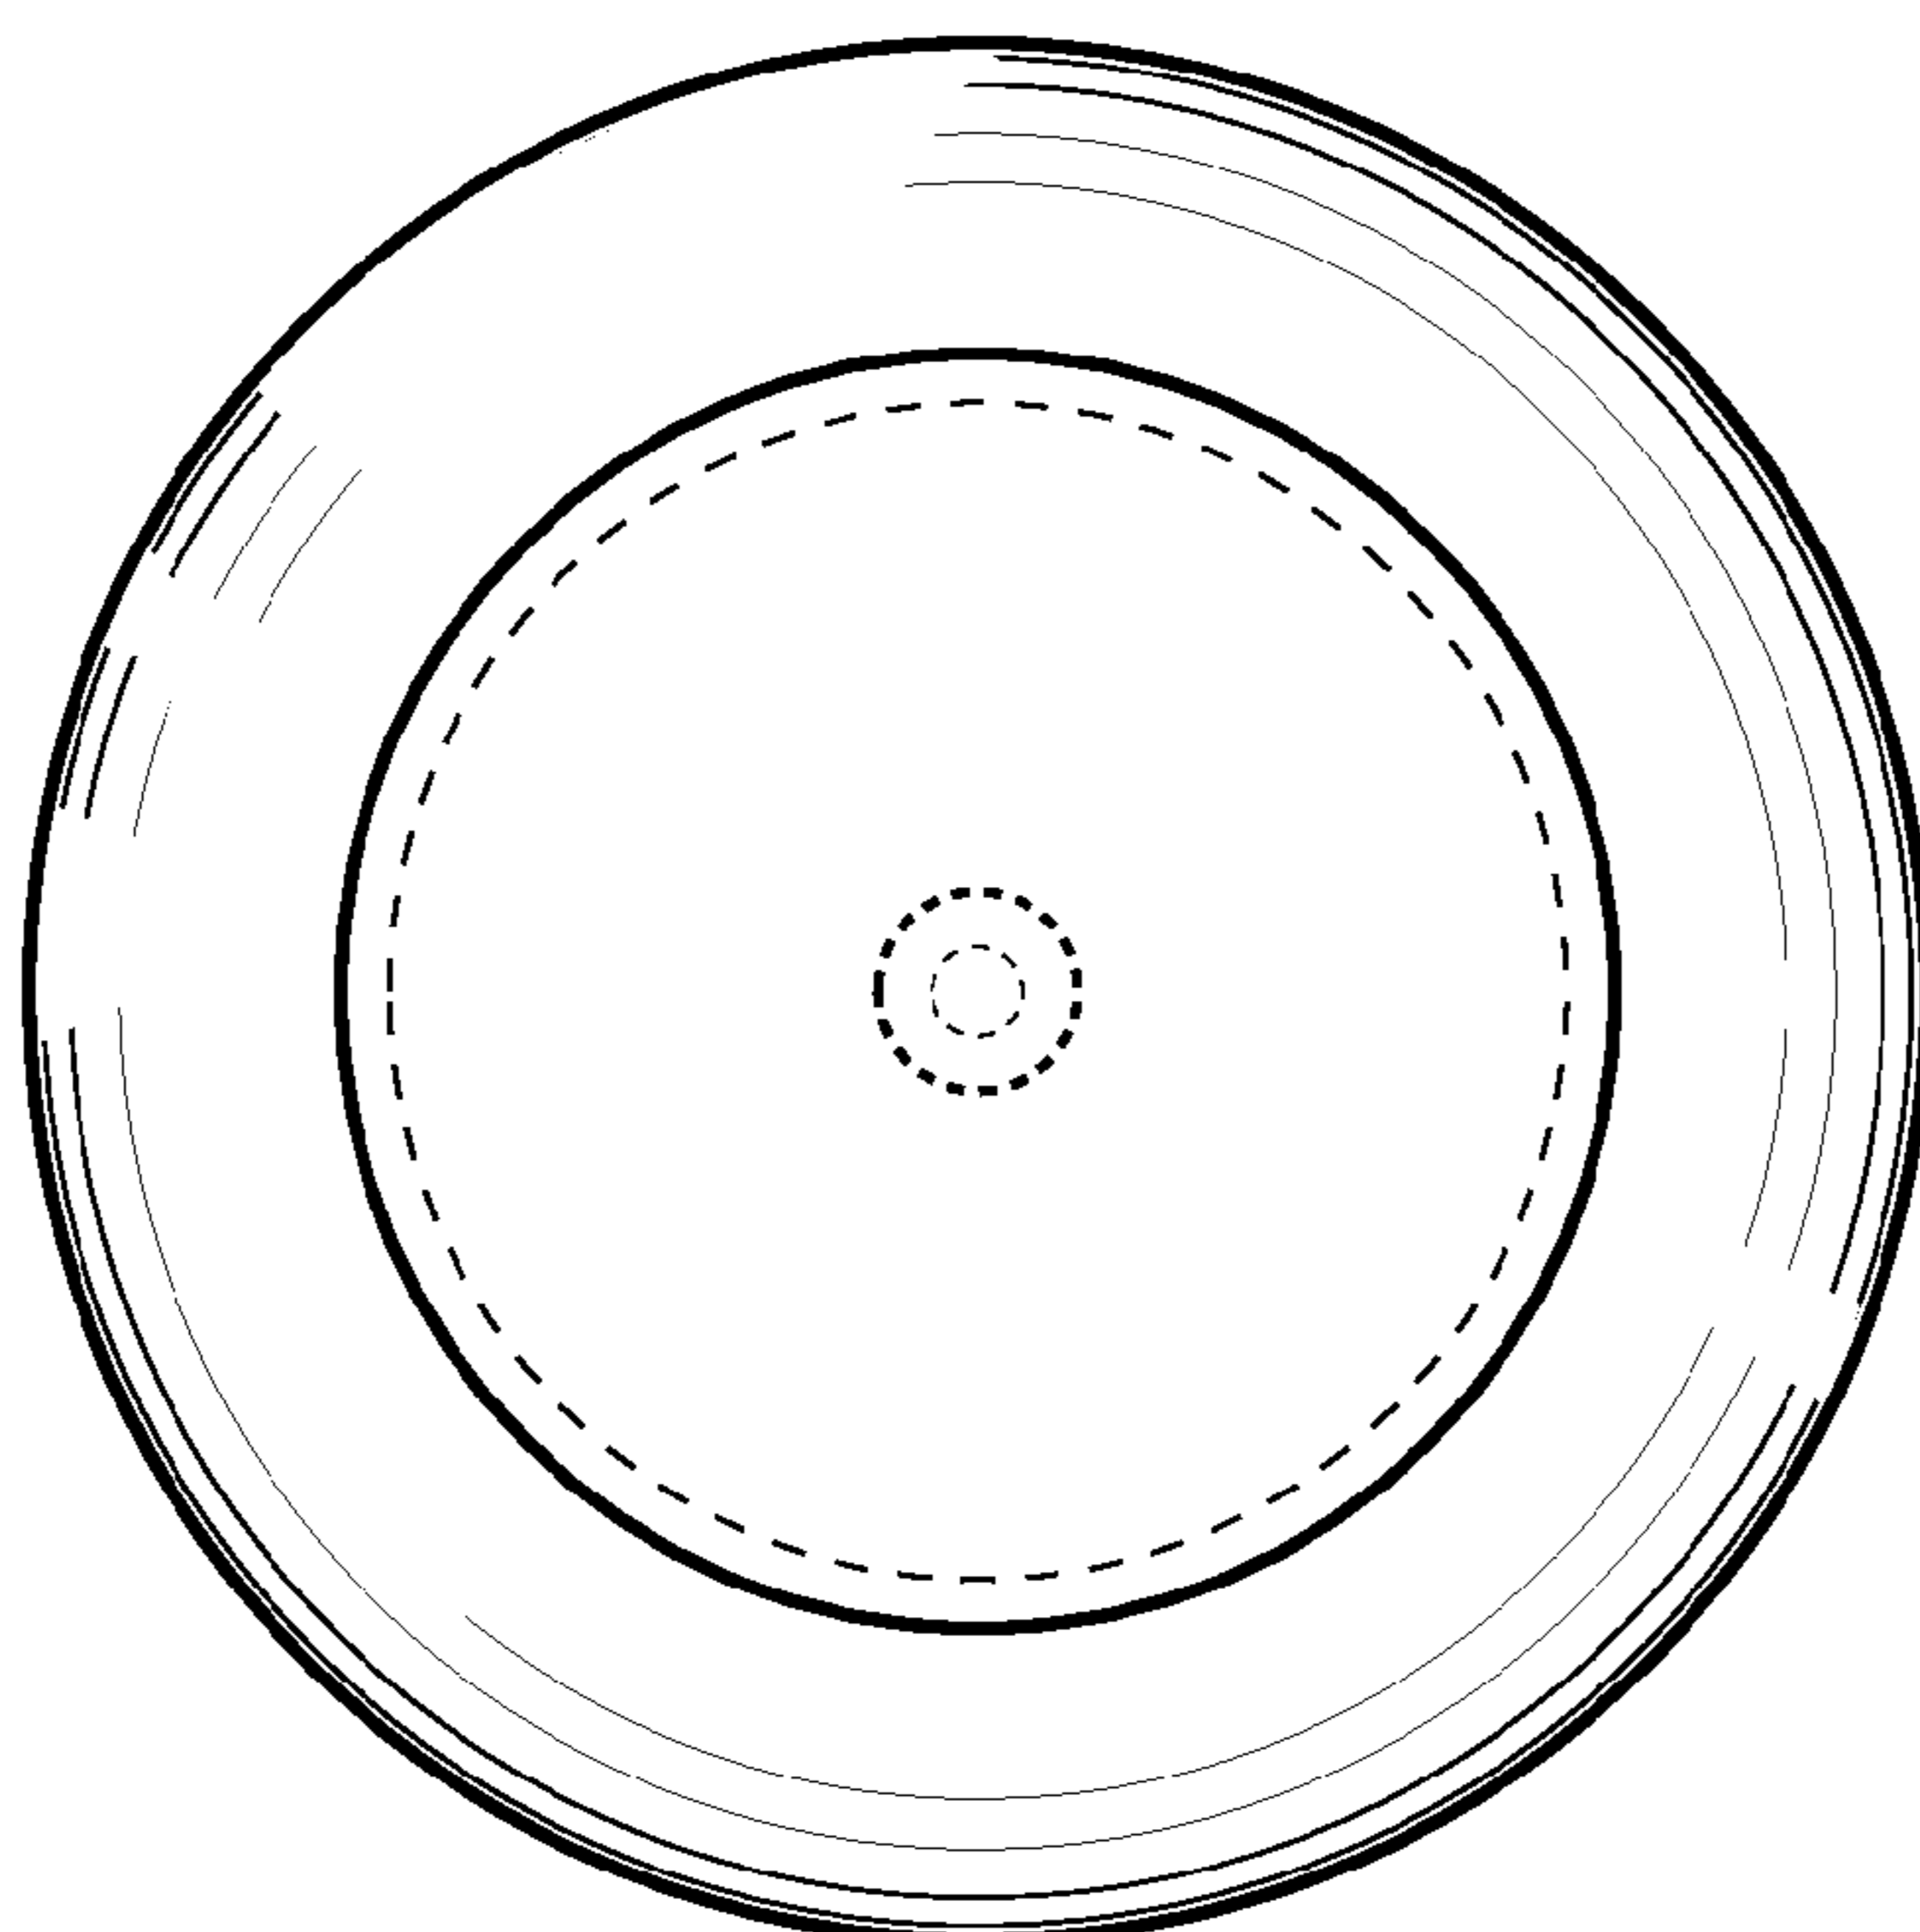

FIG. 3
- FIG. 3 is a front view of the lighting fixture;